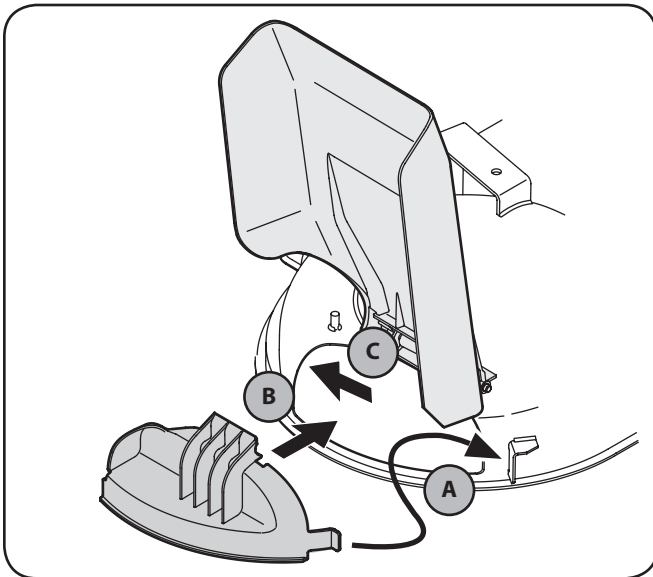

Figure 5-1
1. Insert the right-side tab (A) of the baffle into the bracket on the deck. See Fig. 5-1.
2. Insert the mulch baffle into the discharge opening (B), See Fig. 5-1.
3. Once it's positioned in the deck opening, push the baffle towards the rear of the mower (C) to secure it in place. See Fig. 5-1.